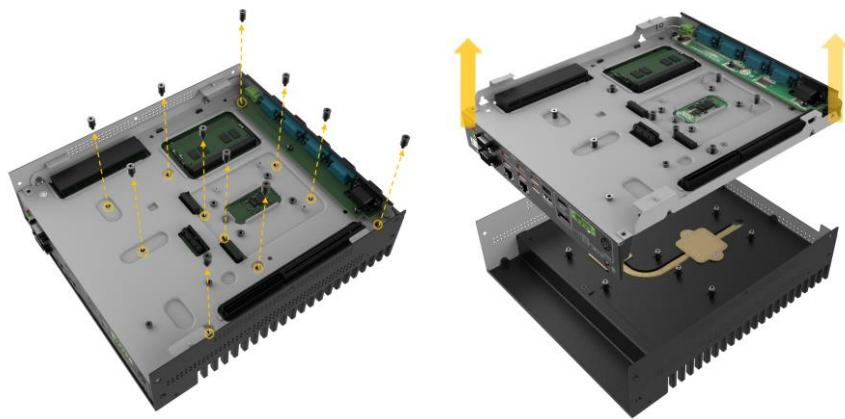

Figure 3-2: Motherboard Removal
Step 1: Remove the 11 spring screws on the motherboard, and then take out the motherboard (including the motherboard holder) (**Figure 3-2**).